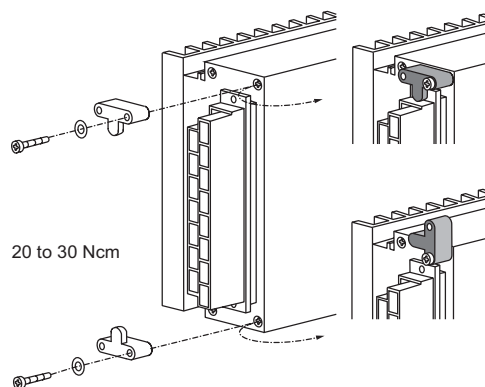

Fig. 22
- Connector retention brackets HZZ01216-G; see fig. 22